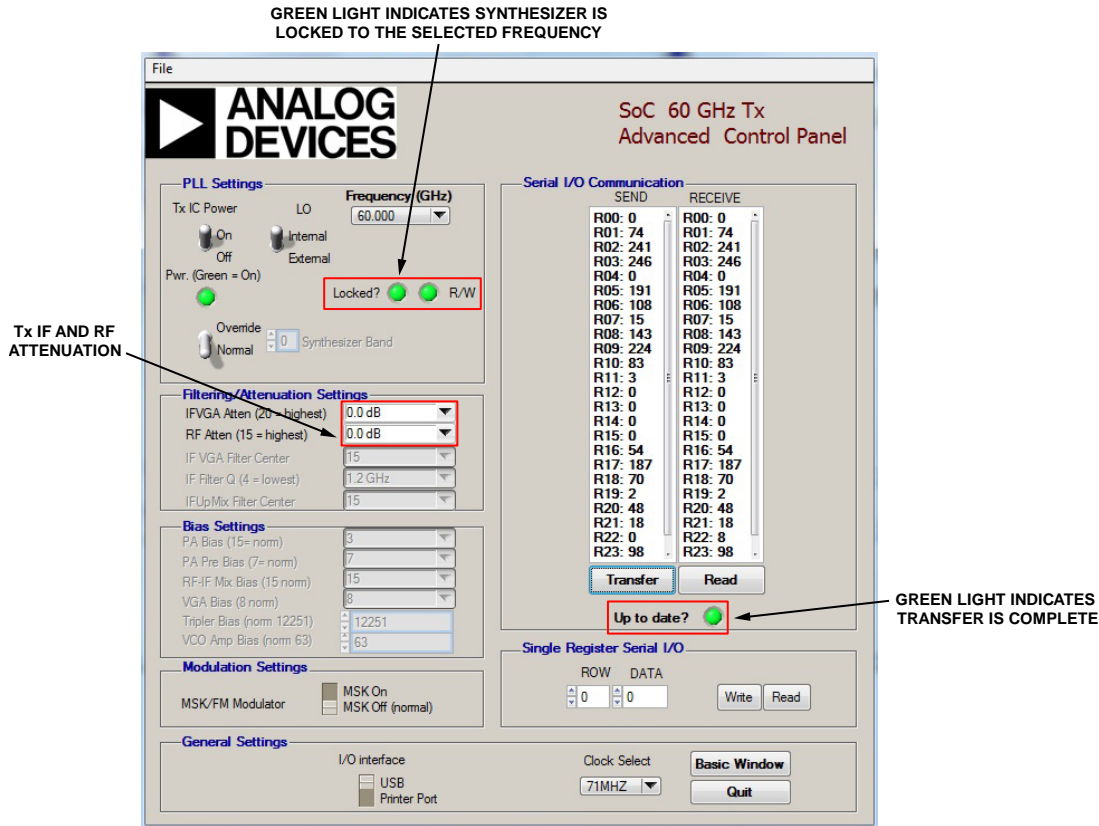

Figure 6. SoC 60GHz Tx Advanced Control Panel Window for the HMC6300 Tx GUI After Successfully Programing the HMC6300 to 60 GHz
3. If the **HMC6300** device is successfully programmed, the **R/W** LED under **PLL Settings** turns green, indicating the read/write operation is properly executed. If the device locks to the selected frequency, the **Locked?** LED under the **PLL Settings** turns green (see Figure 6).
Figure 6 shows a successful data transfer and synthesizer lock. The transmitter then functions at full power on the selected channel. The Tx IF and RF attenuators, under the **Filtering/Attenuation Settings**, can be applied to reduce the Tx output power, if required.